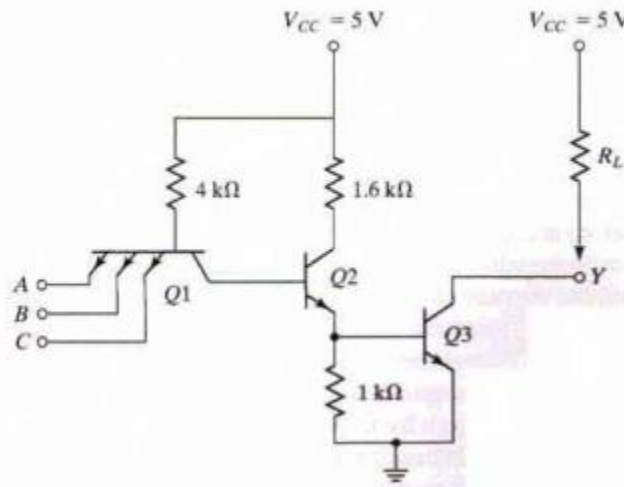

Fig 7 .open-collector TTL NAND gate
- The basic TTL gate is a modified circuit of the DTL gate shown in figure 7.